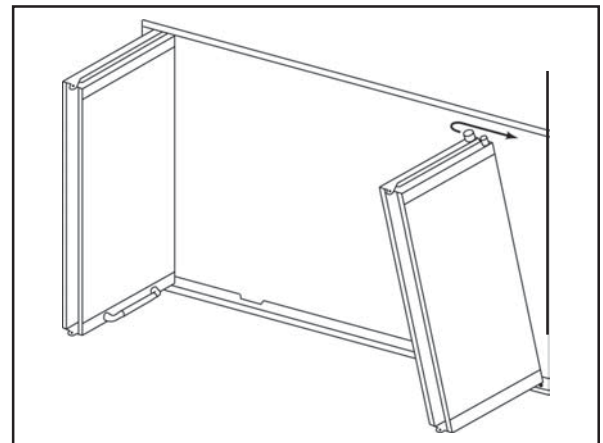

Figure 4 - Install Doors
3. Install the door as shown in Figure 4.